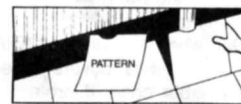

Figure 6 - Irregular cuts.
• **Irregular Shapes** - Make a pattern or template out of heavy paper or cardboard to fit to irregular shapes such as door trim, pipes, etc. (Figure 6). Trace the pattern onto the tile and cut with a utility knife or coping saw.